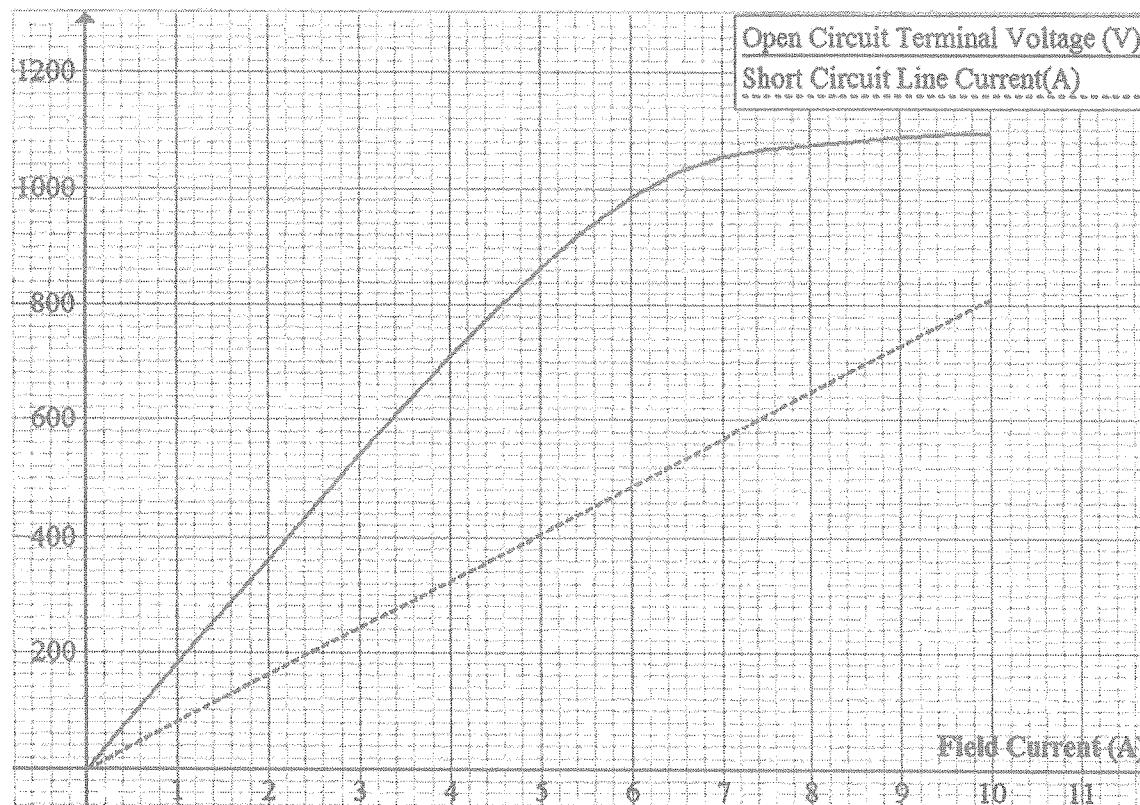

Figure Q5
- b) A 300 kVA, 480 V, 0.85 p.f. lagging, 60 Hz, two pole, wye-connected three-phase synchronous generator has an armature resistance of  $0.04 \Omega$ . The core loss, the stray loss and the rotational loss of the generator under rated conditions are 10 kW, 2 kW and 13 kW respectively. The open-circuit and short-circuit characteristics of the generator are shown in Figure Q5.